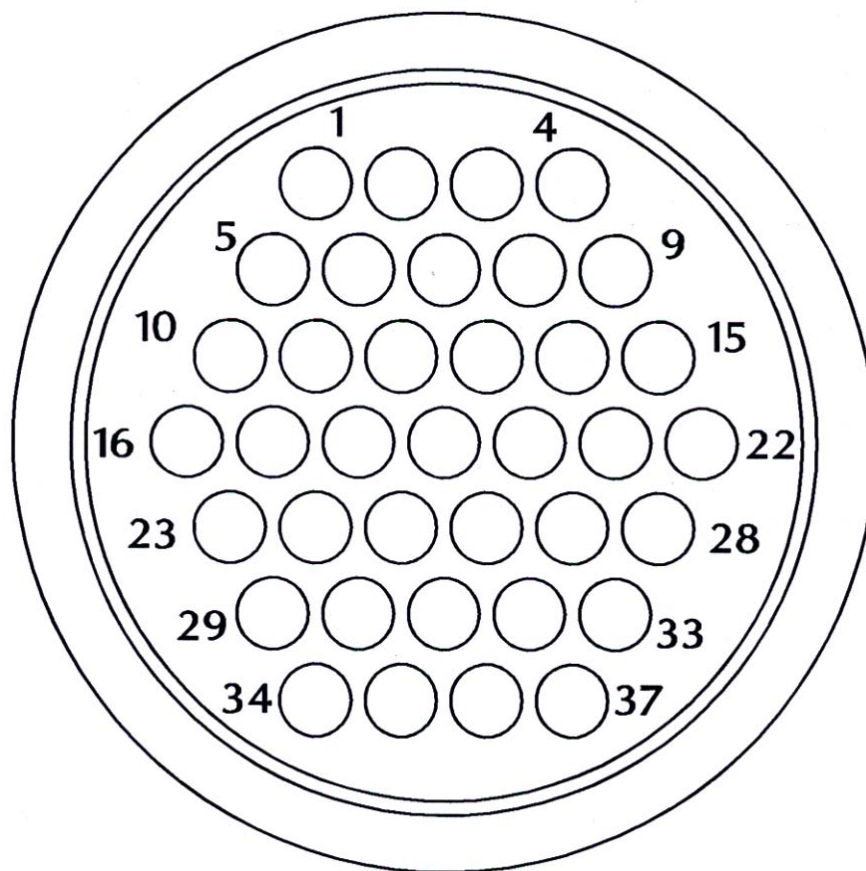

Figure 11-5: Isolated interface option – wire side of isolated I/O connector plug
- Disregard Figure 12-6 on page 12-8 through PFC/P Remote Connector Functions on page 12-10. See Figure 11-1 through Figure 11-5 and Table 11-4.